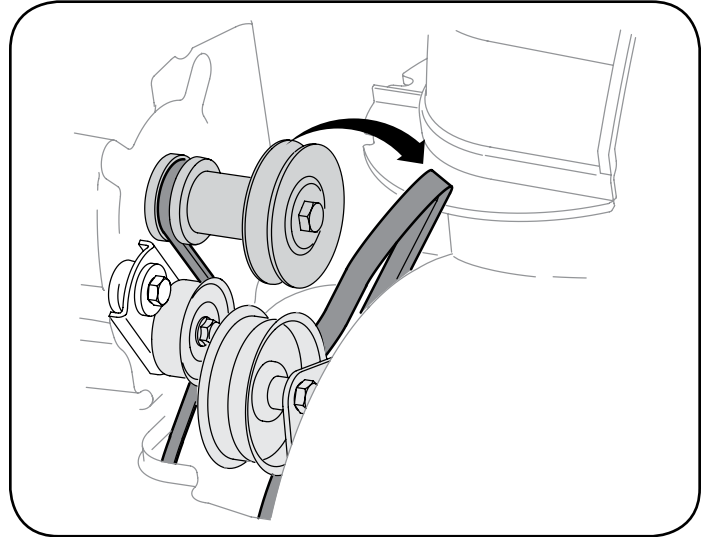

Figure 55
3. Roll the auger belt off the engine pulley. See Figure 55.